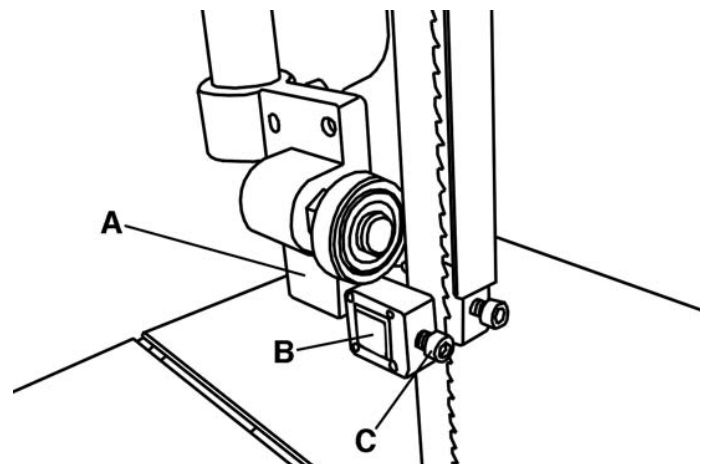

FIGURE 16
Upper blade guides-The upper blade guide assembly (A) Fig.16 has 2 guide blocks (B), these guide blocks should be adjusted to 0.004" away from the blade using a feeler gauge. To adjust blade guide blocks, loosen cap screws (C) and adjust guide blocks, retighten cap screws. Always keep the blade guides 1 inch away from the top of your piece of meat.